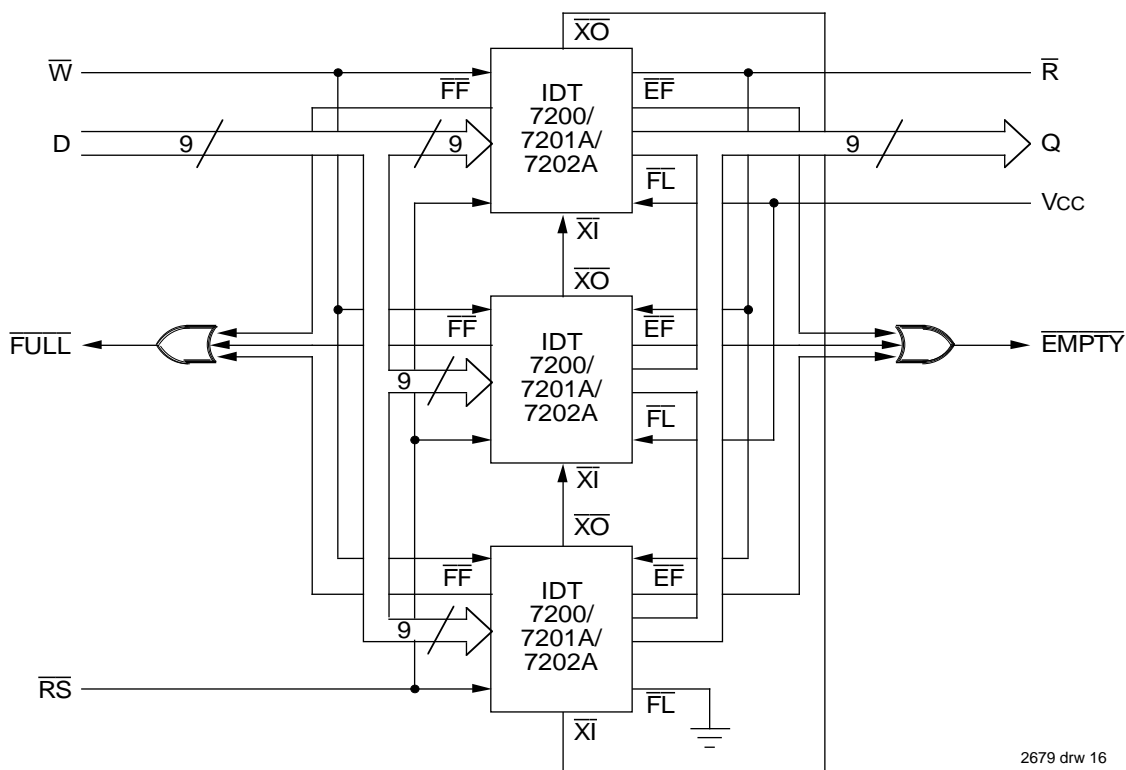

Figure 14. Block Diagram of 768 x 9/1536 x 9/3072 x 9 FIFO Memory (Depth Expansion)
The IDT7200/7201A/7202A can easily be adapted to applications when the requirements are for greater than 256/512/1024 words. Figure 14 demonstrates Depth Expansion using three IDT7200/7201A/7202As. Any depth can be attained by adding additional IDT7200/7201A/7202As. The IDT7200/7201A/7202A operates in the Depth Expansion mode when the following conditions are met:
3. The Expansion Out (\overline{XO}) pin of each device must be tied to the Expansion In (\overline{XI}) pin of the next device. See Figure 14.
4. External logic is needed to generate a composite Full Flag (\overline{FF}) and Empty Flag (\overline{EF}). This requires the ORing of all \overline{EF} s and ORing of all \overline{FF} s (i.e. all must be set to generate the correct composite \overline{FF} or \overline{EF}). See Figure 14.
1. XI-bar is connected to XI-bar of previous device. See Figure 14. RS-bar = Reset Input, FL-bar/RT-bar = First Load/Retransmit, EF-bar = Empty Flag Output, FF-bar = Flag Full Output, XI-bar = Expansion Input, HF-bar = Half-Full Flag Output
1. For depth expansion block see section on Depth Expansion and Figure 14.